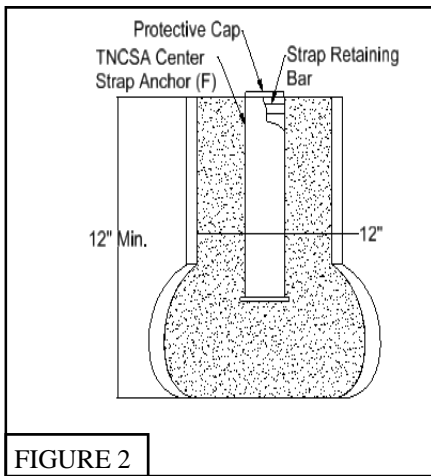

FIGURE 2
3. Dig one 8" round and a minimum 12" deep hole centered between the two pickleball posts (make sure to bell out the bottom of the hole). Insert *TNCSA Center Strap Anchor* (F) with the strap retaining bar running parallel with the *PK10NXL Net* (D) and fill hole with concrete. The hole will require 2 to 3 1/3 cubic bags of concrete. See Figure 2.
4. Concrete must cure 7-10 days before continuing with *PK10NXL Pickleball Net* (D) installation.
5. Stretch out *PK10NXL Pickleball Net* (D) across the court.
10. Attach *TN10CS Center Strap (E)* to the strap retaining bar in the *TNCSA Center Strap Anchor (F)*. Adjust *TN10CS Center Strap (E)* so top of *PK10NXL Pickleball Net (D)* measures 34" at the center. See Figure 2.